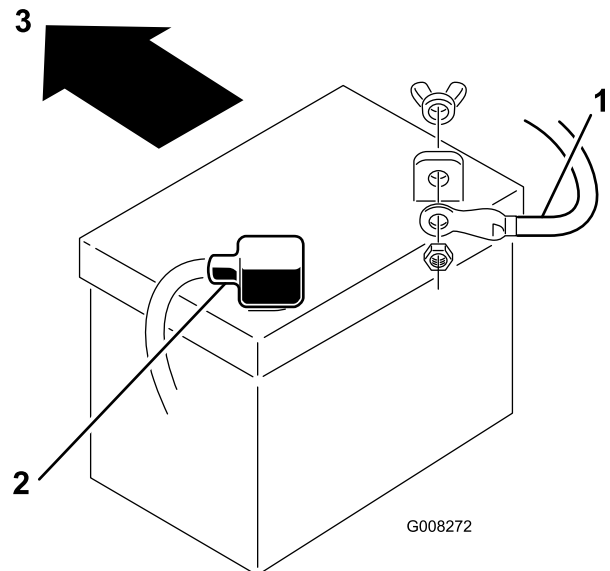

Figure 30
7. Disconnect the negative (black) ground cable from the battery post (Figure 30).
9. Disconnect the positive (red) cable from the battery post (Figure 30).
1. Place the battery into the chassis with the battery posts toward the rear of the machine (Figure 30).
3. Using the bolt and wing nut, connect the positive (red) cable to the positive (+) battery post (Figure 30). Slide the rubber cover over the battery post.
4. Using the bolt and wing nut, connect the negative (black) cable to the negative (–) battery post (Figure 30). Slide the rubber cover over the battery post.